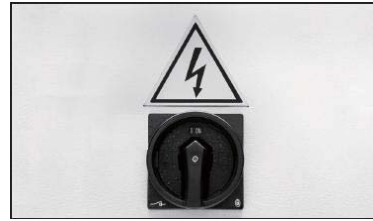

Figure 22. Main Power Switch in ON position.
- Connect the lathe to power, and at the rear of the headstock, turn the master power switch to the ON position (Figure 22).